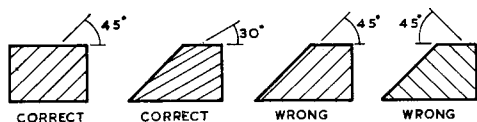

FIG. 30
*Cross hatching* is done by drawing thin, equally-spaced lines at 45 deg. to the edge of the drawing sheet, unless the shape of the section is such that 45 deg. lines would be parallel or perpendicular with the outline, in which case another angle is chosen (see Fig. 30).